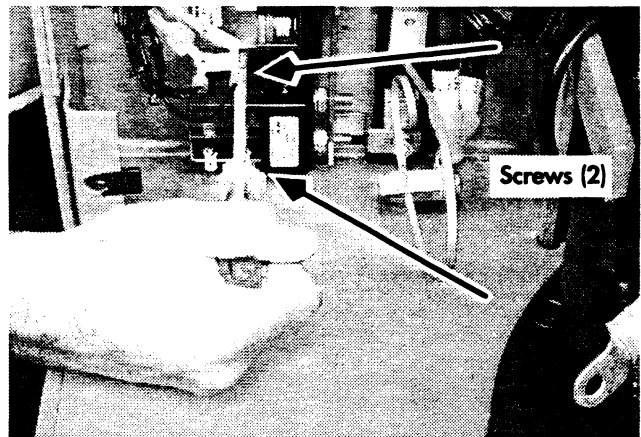

Figure 6-19: Removing Contactor Assembly From Frame
5. Remove the two screws holding the contactor to the frame. See Figure 6-19.